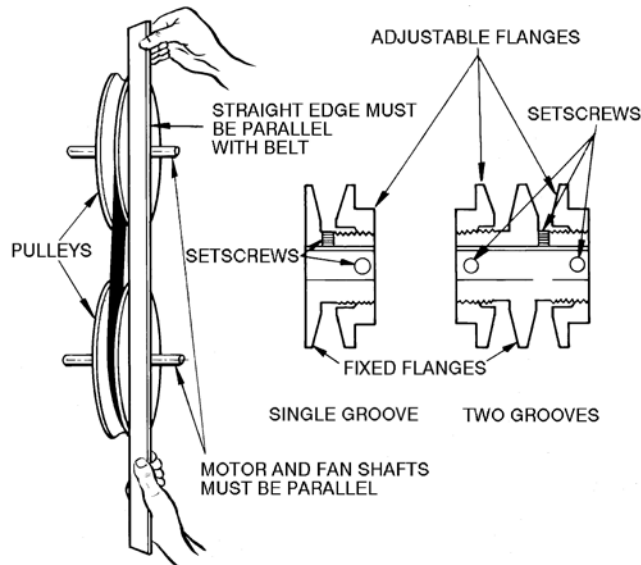

Fig. 24 — Fan Pulley Adjustments
3. Use the methods shown in Fig. 24 to check proper pulley alignment.
2. Loosen setscrew in moveable flange of pulley. Screw moveable flange toward fixed flange to increase the fan speed and away from fixed flange to reduce speed. Before tightening setscrew, make certain that setscrew is over nearest flat surface of pulley hub (Fig. 24).